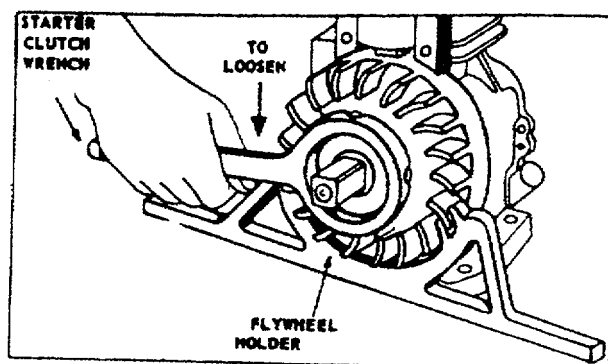

Figure 3-20. Pulling Engine Flywheel.
- (6) Brace flywheel (5) with flywheel holder as shown in Figure 3-20 and remove clutch (6) with starter clutch wrench by rotating clutch (6) clockwise.
- (1) Install clutch (6) by placing clutch onto engine shaft, bracing flywheel (5) with flywheel holder as shown in Figure 3-20 and rotating clutch (6) counterclockwise with a starter clutch wrench.
- (2) Install screen (7), pulley (8), and four screws (9).
- (3) Attach wire to switch (2) as tagged.
- (4) Install blower housing (3) and four screws (1).
- (5) Place starter (10) onto blower housing (3) being sure to engage starter with shaft on clutch (6).
- (6) Install four screws (11).